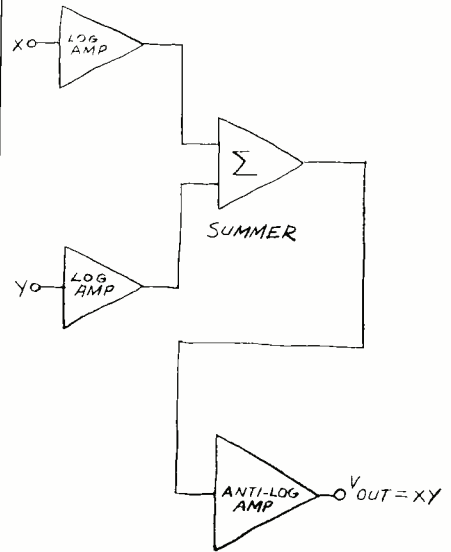
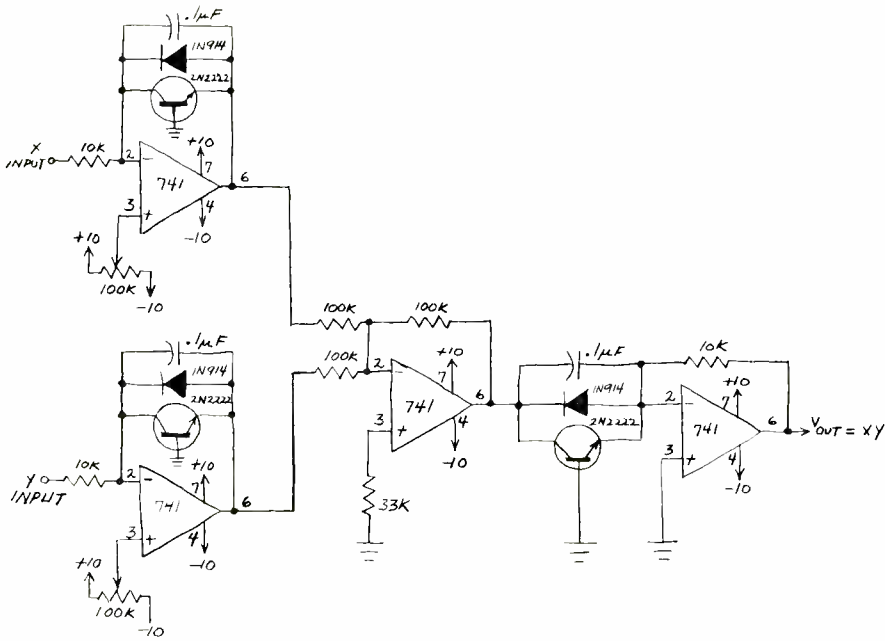

Fig. 6. Block diagram of a logarithmic multiplier.
Fig. 7. Analog logarithmic multiplier circuit.
**The Analog Multiplier.** Now that we've built log, antilog and summing amplifiers, we can build an analog multiplier. A block diagram for the multiplier is shown in Fig. 6 and a complete circuit in Fig. 7.
my usual practice of breadboarding every circuit that appears in this column, I must confess to not having assembled the multiplier in Fig. 7. Several single IC multipliers that include all necessary amplifiers and transistors on the same silicon chip are now available, and they're much easier to use and more accurate because all circuit elements on the chip are at the same temperature. One such multiplier is Motorola's MC1595.